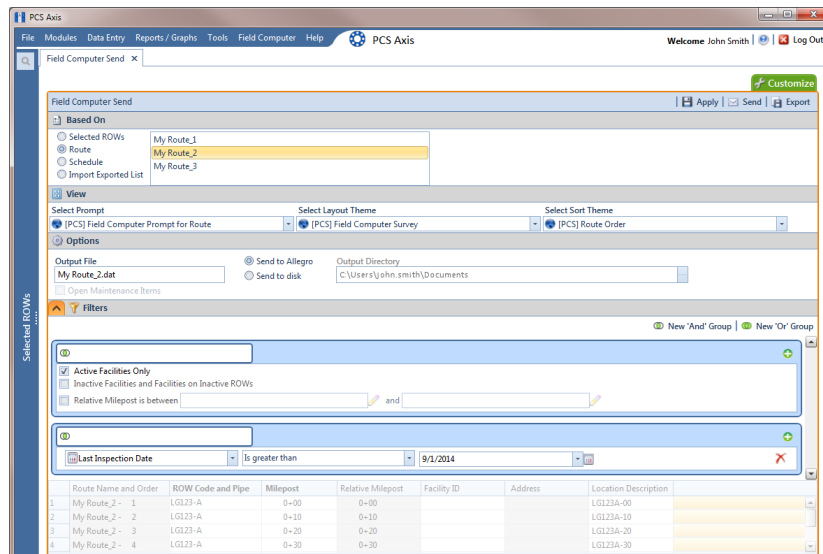

Figure 13-9. New 'And' Filter Group
- a Click  **New 'And' Group** to open the filter properties group box. (Figure 13-9).